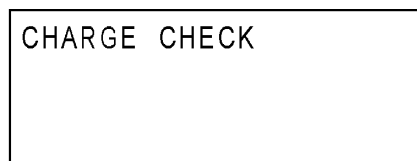
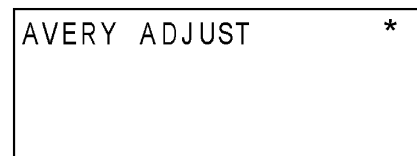

Fig. 47
Fig. 48
- (1) Press the "RET" key. The display shifts to one as shown in Fig.47.
- (2) Depression of the "BL" key changes the CHON value to "0". The CHON values can be changed over by every depression of the "BL" key.
- (3) Press the "RET" key while the LCD displays as shown in Fig.47. The display shifts to the Margin Set Mode as shown in Fig.48.